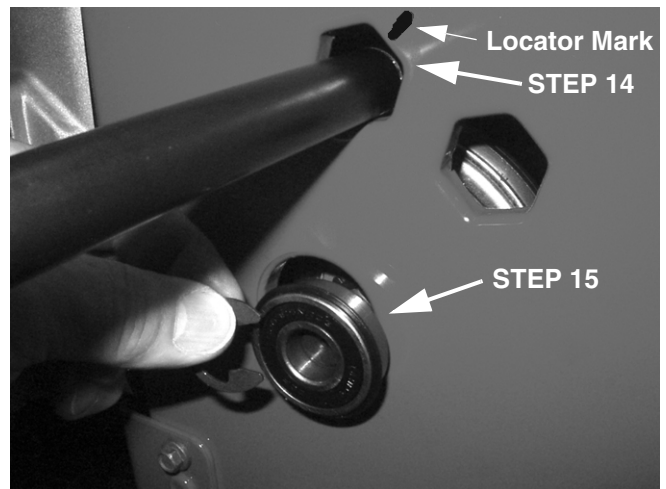

FIGURE 8
14. Remove and discard the E-ring retainers and ball bearings from both ends of the drive hex shaft as shown in Figure 8.